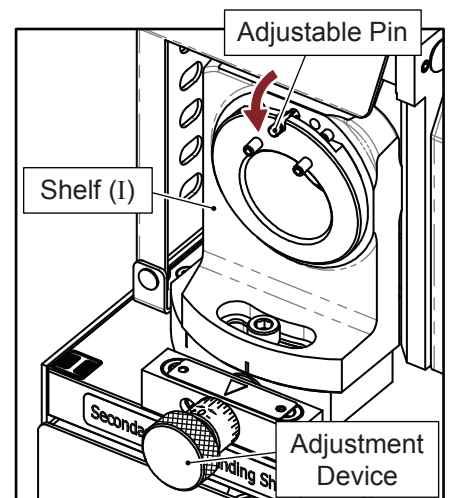

Fig. 11-1
1. Secondary Relief Grinding Shelf (I) (Fig. 11-1)
- ① Move the adjustable pin on Shelf (I) from the top to bottom.
- ② Adjust the Cutting face adjustment device to “0”, after finishing the whole sharpening procedure, then adjust this device according to your needs. (See chapter “XIV. The use of the Cutting Face Adjustment Device”)